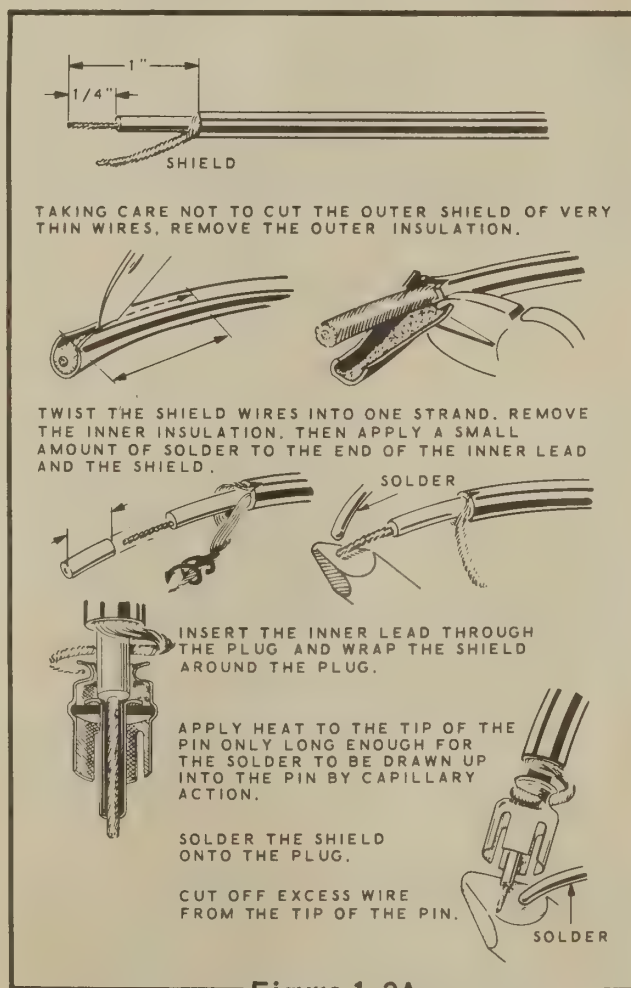

Figure 1-2A
- ( ) Cut the speaker wires to the length required for your installation. Refer to Figure 1-2A to attach a phono plug to the speaker wires.
- ( ) Connect the 50  $\Omega$  dummy load to the ANT phono socket on the rear of the chassis. If necessary, refer to Figure 1-2A and attach a phono plug to the 50  $\Omega$  dummy load antenna.